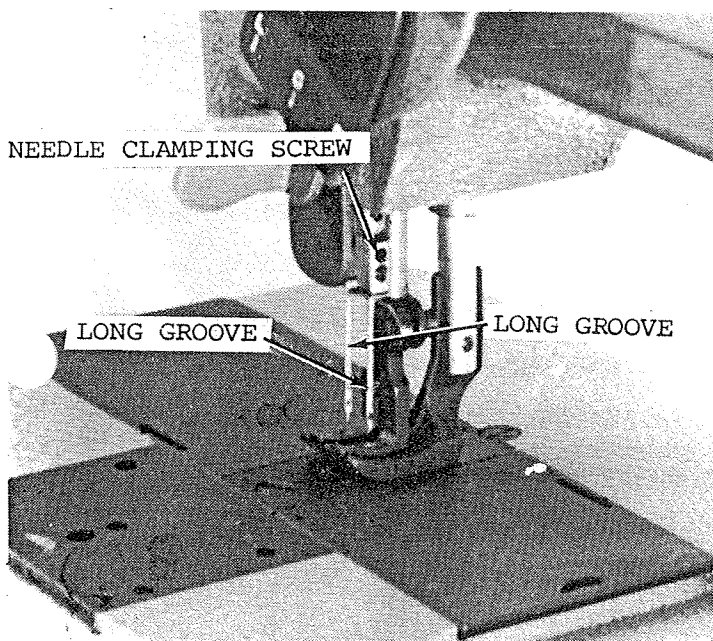

FIG. 7
SETTING THE NEEDLES (Fig. 7)
- 1) Turn machine pulley over toward you until needle bar is at highest position as shown in Fig. 7.